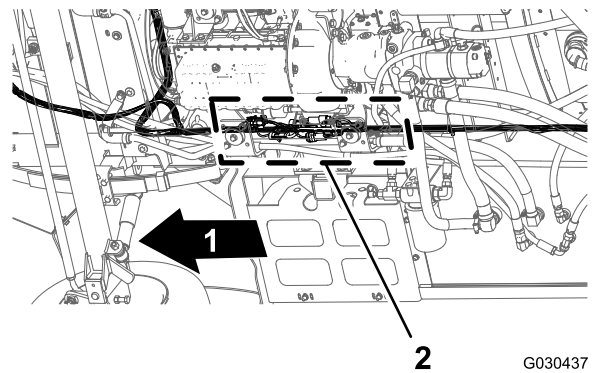

Figure 86
1. From under the machine along the right frame tube, locate the electrical connectors for the front and rear wire harnesses of the machine (Figure 86).